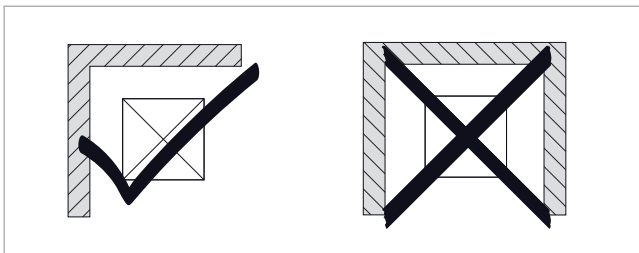

Fig. 4: Installation conditions near walls
- Do not install the heating pump in structures that are closed on three sides. See → Fig. 4